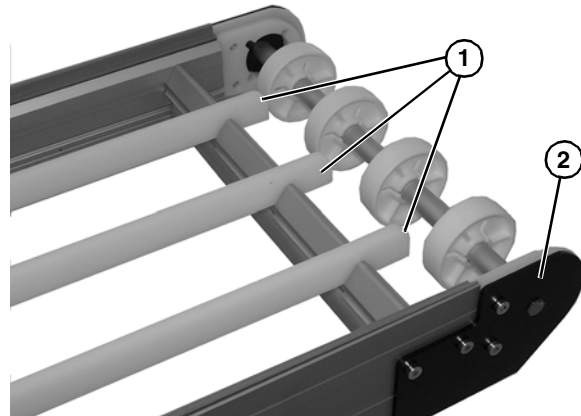

Figure 42
The rounded ends of top wear strips (**Figure 42, item 1**) faces the idler end (**Figure 42, item 2**) of the conveyor.